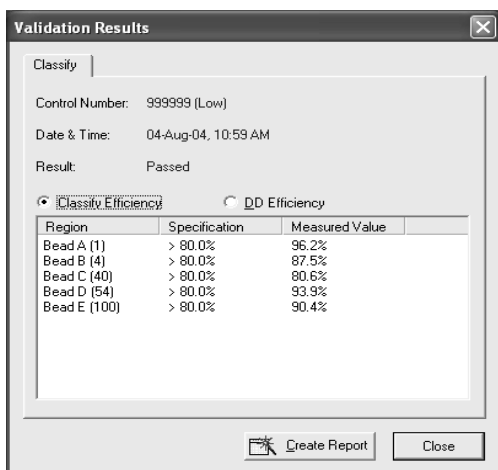

Fig. 11. Classify validation results.
- When the procedure is completed, values will be displayed in a dialog box as shown below (Figure 11). The classify efficiency and DD efficiency results may be accessed in this view.